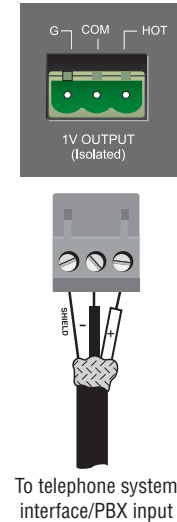

Figure 2.8 Connections to the MOH Line Output Phoenix Connector
- **MOH Line Output Phoenix Connector:** 3-pin Phoenix connector, 600-ohm transformer-isolated output, provides Music-On-Hold signal of approximately 1 volt. See Figure 2.8.